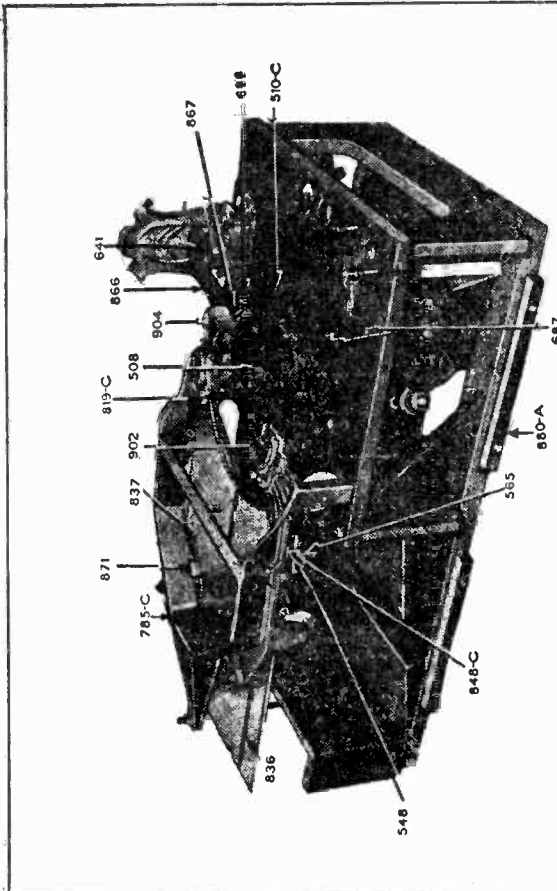
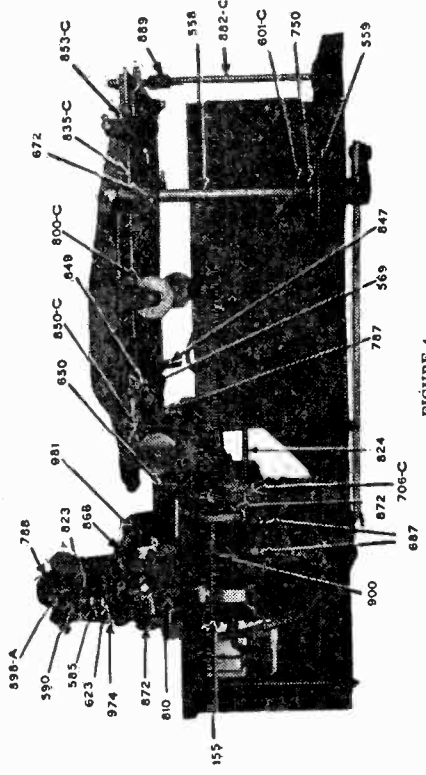
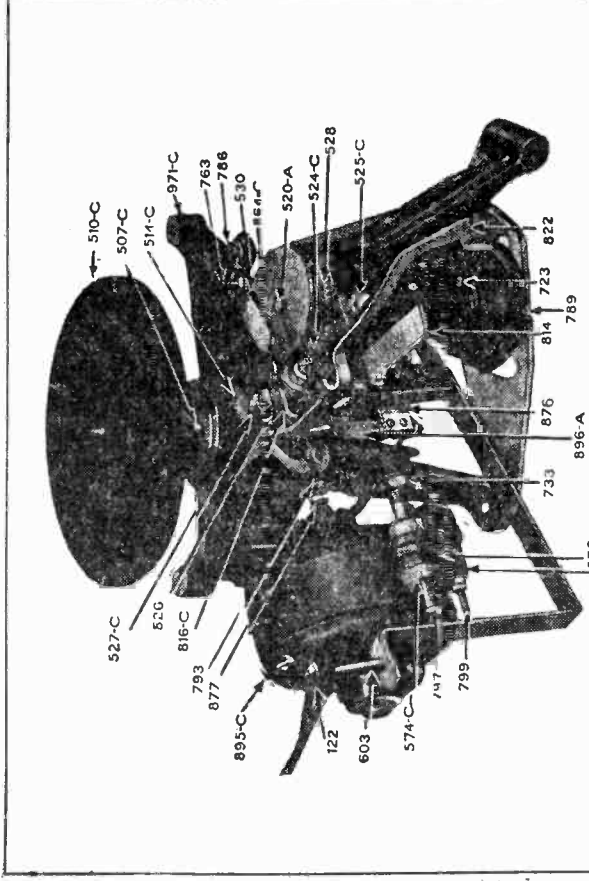
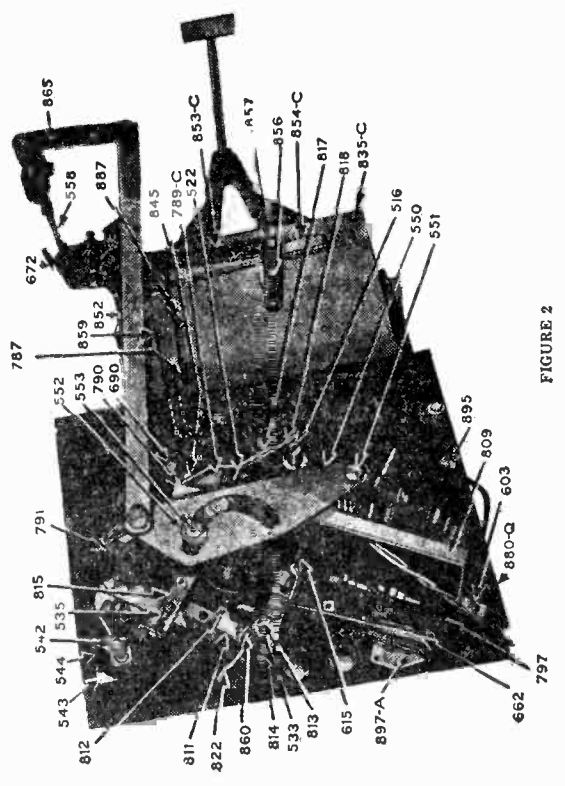

FIGURE 3
FIGURE 4
FIGURE 1
FIGURE 2
Dog 813 *figure 2* for eccentric groove records and Spiral Trip Dog 533 for spiral groove records is attached to Pick-up Arm Lever 811 by means of Adjusting Stud 860 and Adjustment for Pick-up Lever 812. Pick-up Arm Lever 811 is attached to Pick-up Unit 904 *figure 3* by means of Yoke 867 and Pick-up Arm 866 which is connected to Bracket 810 *figure 4*, onto which Pick-up Arm Lever 811 *figure 2* is attached by means of two screws 155 *figure 4*. This whole device is allowed to swing from right to left due to its attachment to Standard 788 by the Dog Point Set Screws 823 which fit into the Bearing in Bracket 810.
When Trip Lever 814 *figure 1* is tripped, it allows Throwout Lever 822 to drop, and this causes Clutch Lever 816-C to push Clutch 526 into the Pins of Clutch Collar 527-C which is revolving; acting through Worm Gear 514-C which is driven by the Worm in Drive Shaft 793 connected to Motor by means of Drive Spring 877. The connecting of this Clutch causes worm shaft 524-C¹ which is meshed with Cam Worm Gear 528 to cause Cam 789 to revolve and lower the Turntable to the "swing back" elevation. This is accomplished by Lift Lever 817 *figure 2* which is operated by Cam 789 *figure 1* acting on the bottom of Turntable Shaft 507-C, through Turntable Lift 516 *figure 2* and Adjustment 818 to which the Turntable Shaft is attached.
Returning to the action of Cam 789 *figure 1* as it rotates further, Turntable 510-C³ drops to the discard position, allowing the record to come in contact with Discard Rubber 650 *figure 4*. This raises the record above Receiving Stud 508 *figure 3* and the rotation of Turntable 510-C³ then causes the record to be discarded into the Receiving Compartment.
Before the Cam 789 *figure 1* allows the Turntable to be moved into the discard elevation, and while the Turntable is still in the "swing back" elevation, the Pick-up Unit is swung away from the record by means of Index Lever 815 *figure 2* which is connected to the Pick-up Arm through Pick-up Arm Lever 811. The inner end of the slot in Index Lever 815 acts on Pin 763 *figure 1* that revolves with the Cam in a clockwise motion. It is through this means that the Pick-up Unit is swung away from the record.
When Cam 789 *figure 1* starts to revolve, Eject Arm 790 *figure 2* also starts to revolve as it is driven by Dog 822. Roller 582 attached to Eject Arm 790, travels in the slot in Drive Lever 550 and causes it to move from the left to right, which moves Eject Slide 835-C and brings the center of the record over Receiving Pin 508 *figure 3* in Turntable 510-C³. This motion is caused by Drive Lever 550 *figure 2* acting through Link 852 attached to Lever 865 which is pinned to Shaft 568 connected to Top Lever 853-C which acts on Transverse Lever 854-C through Link 856. The Transverse Lever is connected to the twelve inch record Regulating Lever 859 which is fastened to Eject Slide 835-C by means of the Stud in the "L" shaped slot. This Stud remains in the "L" end of Lever
In case a twelve inch record is on the Slide, Centering Lever 850-C *figure 4* is pushed out by the twelve inch Regulating Lever 869 *figure 2*. Eject Slide 835-C moves forward, causing the Stud to leave the "L" end of the slot in Lever 859 allowing Eject Slide 835-C to travel just far enough to place a twelve inch record over Receiving Stud 508 *figure 3*.
Ten or twelve inch records can be used without discrimination. The engagement of the needle on ten or twelve inch records is controlled by Engaging Regulator Weight 872 *figure 4* acting on Cable 900 which is attached to Index Lever 815 *figure 2*. When the Weight is allowed to act, Index Lever 815 is pulled over and the long slot engages on Pin 763 *figure 1* causing the Pick-up Unit to swing into the proper place to engage on a 12" record. If Regulator Weight 872 *figure 2* is not allowed to act, Index Lever 815 *figure 2* is carried over by means of Drag Link 530 *figure 1* so that the short notch engages on Pin 763 and the needle engages at the proper place to start a 10" record. Whether or not the Weight 872 *figure 4* is allowed to act depends on Shaft 824 which, when under Weight 872, keeps the Weight from acting. Shaft 824 is controlled by Engaging Regulator Arm 787.
When a 12" record is fed out, Centering Lever 850-C *figure 4* is pushed out. The Finger on it carries Arm 787 out with it, swinging end of Shaft 824 from under Weight 872, allowing 872 to act. Shaft 824 will remain in this position until a 10" record is fed out of the Hopper. Thus, a 12" record may be repeated on the Turntable as many times as desired. When a 10" record is fed out of the Hopper, Eject Slide 835-C *figure 2* goes out further over the Turntable, allowing Pin 887 to come in contact with Arm 787 causing it to move so that Shaft 824
Again returning to the motion of Cam 789 *figure 1* further rotation of this Cam causes the Turntable to rise to receiving elevation, in time to receive the record which has been moved to the positions just described. The Turntable remains in this position while the Cam rotates further, allowing Roller 552 *figure 2* which is attached to Eject Arm 790, to travel in the slot in Drive Lever 550 and return Eject Slide 835-C to its original position. As soon as Eject Slide 835-C has returned to this position, Cam 789 *figure 1* has revolved to a position where it allows the Turntable to drop to the "swing in" elevation.
At this time Pin 763 *figure 1* has revolved far enough to connect with either the ten or twelve inch notch in Index Lever 815 *figure 2*. Its further revolution causes the Pick-up to swing in over the record so the Needle rests on the smooth part of the record as the Turntable is raised to reproducing elevation by means of Cam 789 *figure 1*. Regulating Weight Lever 872 *figure 4* on Standard 788 now causes the Pick-up to move over from the smooth part of the record to the first reproducing groove. Reproduction of the record begins at once.
When the Pick-up Unit first swings away from the record, Pick-up Arm Lever 811 *figure 2* passes under the tail of Throwout Lever 822 *figure 1*, causing it to rise to a position where the notch in Trip Lever 814 is allowed to enter its proper place under the lug in Throw-out Lever 822, holding Throwout Lever 822 in this
Pick-up Switch 898-A *figure 4* is attached to the back of Standard 788. When the Pick-up is not resting on a record, the Pick-up Arm drops down, swiveling at Trunnion Pin 641, *figure 3*. This allows the Brake Shoe on Pick-up Arm 866 to rise and press against Cork Insert 623 *figure 4* which is in the Brake Adjustment 585. This retards the Swinging action of the Pick-up and allows it to move only when forced by Index Lever 816 *figure 2*. This Brake Adjustment 585 can be regulated to bring the Pick-up to the height desired and is locked in place by a nut.
Through the center of Brake Adjustment 585 is a Fibre Rod 590 *figure 4* which also rests on Brake Shoe 974 and is raised whenever the Brake is closed. The upper end of this acts on the Contact Spring in Switch 898-A and causes it to open the Switch and break the entire circuit, acting the same as the Clutch Switch in parallel with it. With both of these switches open, the power supply is entirely cut off. Also, when this switch is open a contact is formed with the upper part of the Switch which cuts out Speed Regulating Rheostat No. 544 *figure 2* and allows the full power to be used while the Cam is in the operating cycle.
If a ten inch record is on the bottom and is not in the center, it is forced into the center by the two Centering Levers 800-C *figure 4* and 848-C *figure 3* which are held in position under tension by Springs 569 *figure 4* and 565 *figure 3*. These Springs are right and left hand and are attached to bushings in Studs, which have right and left hand threads and have a tendency to keep the spring from unscrewing the studs and nuts which hold them.
These Springs hold the Centering Lever against the Stop Pins which are set so that they hold the Centering Levers just the right distance to allow a 10" record to pass through with a slight amount of tension. In case a 12" record is on the bottom, these Springs are allowed to open up and the Centering Lever 800-C *figure 4* acts to trip the mechanism as described under the paragraph about Slide Movement for 12" records.
In starting or rejecting records, the Starting Button *figure 5* is pressed. When this Button is pressed slightly, it causes the contacts in switch 897-A *figure 2* to be spread apart which changes the fields in the motor from a series connection to a parallel connection for a greater starting torque. Pressing down further causes Lever 662 *figure 2* to act against Throwout Lever Trip 814 and trip mechanism which discards the record. This is the same action as though it were tripped with the Dogs 813 or 814.
Clutch Switch 896-A on Bracket 876 *figure 1* is operated by Clutch Lever 816-C by means of a fibre switch Opener, the purpose of this switch is to allow switch 898-A *figure 4* to be opened when the Clutch is engaged and the Cam is in motion. This carries the current whenever Clutch is in motion and the Pick-up Unit is not resting on a Record.
position after the Pick-up Arm Lever 811 *figure 2* no longer supports it. When the Throwout Lever is raised to this position, a spring tension is created which pulls on Clutch Lever 816-C *figure 1* attempting to pull back and open Clutch 626 but Clutch Lever 816-C is held in the engaging position by means of Control Disc 864-C until the Cam has completed its entire revolution when a notch in the Control Disc allows the Clutch Lever to follow the urge of the spring and disengage the Clutch.
In case it is desired to play the same record over, the repeat Button *figure 5* is moved to the left. This moves Repeat Lever 809 *figure 2* causing it to press against Drive Dog 522 causing the Dog to recede and not catch on Eject Drive Arm 790. Eject Drive Arm 790 remains stationary and the Eject Slide does not move. The Cam revolves and the Turntable goes through all of the elevating positions except the discard elevation. Eject Arm 790 does not allow Roller 845 to drop to the discard elevation in Cam 789 *figure 1*, thus the record will be repeated until the Repeat Lever is moved to the right.
When Eject Slide 885-C *figure 4* comes forward, the bottom record is caught between the "V" shaped plates 836 and 887 *figure 3* which brings the bottom record forward with the Slide. The other records slide over the top of these "V" shaped plates and remain in the Hopper. Only the bottom record is allowed to come out of the Hopper onto the Turntable. Other records are prevented from coming out by means of the two Admitters 819-C which are devised so they gauge themselves according to the thickness of the record. Thick, thin or warped records are fed out through the action of the admitters without injury to the records or mechanism. The admitters are held down against the record by means of springs and are adjusted by Screws 902. Back Stops 871 prevent records from sliding too far back in Hopper.
consistency of vaseline, mixed with graphite if possible. In the main body casting, housing the turntable shaft and worm gears two (2) pipe (2) pipe plugs 687 figure 4 marked "Grease." Remove these Plugs and inject a small quantity of grease in the openings.
ADMITTERS 819-C FIGURE 3. Use Adjusting Screw 902. Turning this screw in a clockwise direction raises the end of the admitter higher. The height of the admitter should be just enough to touch a record on the Eject Slide 835-C figure 2 when the slide is out.
ALIGNMENT OF MOTOR DRIVE SPRING 877, FIGURE 1 WITH DRIVE SHAFT 793. Two adjustments are provided for this purpose. One for aligning the spring if it is horizontally off center with the drive shaft and the other for alignment if the spring is vertically off center.
To align the spring if horizontally off center loosen the four collars (see 574-C, figure 1) on Screw Studs 797. This will then allow either side of Motor 895-C to be moved back or forth on the studs as the case demands. To align the spring if off center vertically, the Hex. nut on Stud 799 should be loosened or tightened depending upon whether the motor is to be tipped up or down.
PICKUP UNIT TO STRIKE AT PROPER PLACE ON RECORD. Use adjusting Screw 535 figure 2. The needle in the Pickup Unit should strike about 1/4 inch in from the outside edge of the record.
PICKUP UNIT TO TRIP MECHANISM ON SPIRAL GROOVE RECORD. Use adjusting Screw 812, figure 2. The mechanism should trip
PICKUP UNIT TO TRIP MECHANISM ON ECCENTRIC GROOVE RECORD. Use Adjusting Screw 860, figure 2. The tip of eccentric trip Dog 813 should be 1/32 inch above trip lever 814 before it starts to travel in under this lever.
THE NEEDLE ENGAGING REGULATOR SHAFT 824. Loosen Set Screw in Arm 787, figure 4, and move Shaft 824 to the required position. When a 10" record is on the turn-table being reproduced, Shaft 824 should be under Weight 872.
THE HEIGHT OF NEEDLE ABOVE RECORD. Use Adjusting Screw 585, figure 4. This adjustment should be made immediately after the pickup unit has swung in and just before the turn-table rises. When the turn-table is in this position the needle should be 1/8 inch above the record.
THE HEIGHT OF THE TURN-TABLE. Use Adjusting Screws 818, figure 2. The height of the turn-table should be 2 1/4 inches from top of motor board to top of turn-table when the turn-table is in the record receiving, or highest, position.